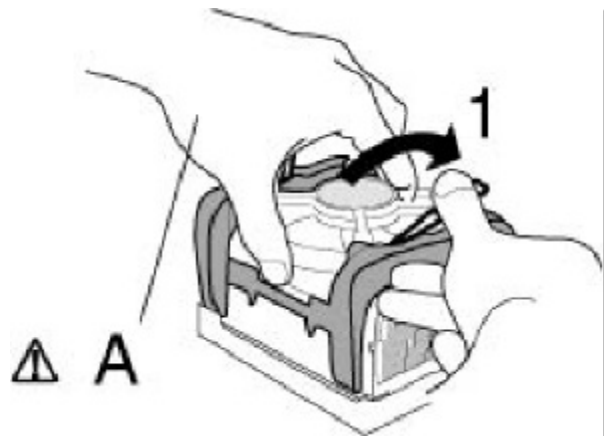

Figure 3-10b: Installing the Fan Heatsink (5)
- a.) Make sure to close the clips levers in opposing directions, one at a time (levers require force to be completely closed), as shown in Figure 3-10a. First, close the clip lever (1 in Figure 3-10b), while holding the topside of the fan heatsink with your other hand (A in Figure 3-10b).